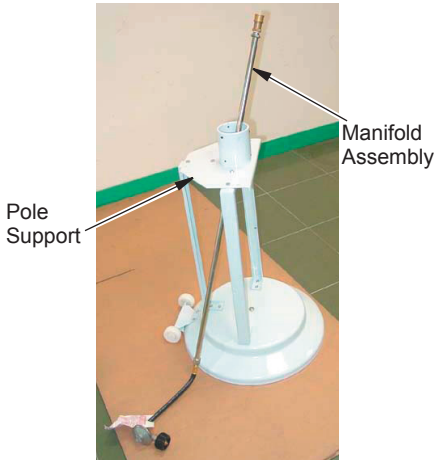

Figure 2 - Installing Manifold Assembly
4. Insert manifold into pole support (see Figure 2). Insert the manifold assembly through the post by passing through the hole in the post support.